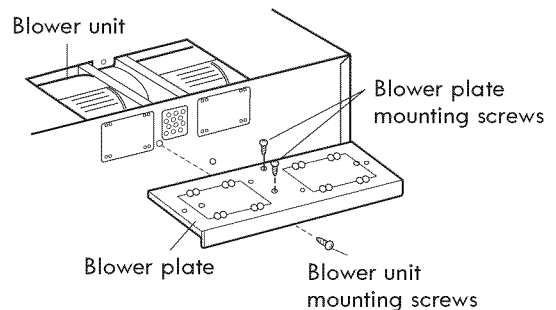

Figure 21
6. Reattach blower plate to microwave oven. Attach with the one blower unit mounting screw and then the two blower plate mounting screws. See Figure 21.